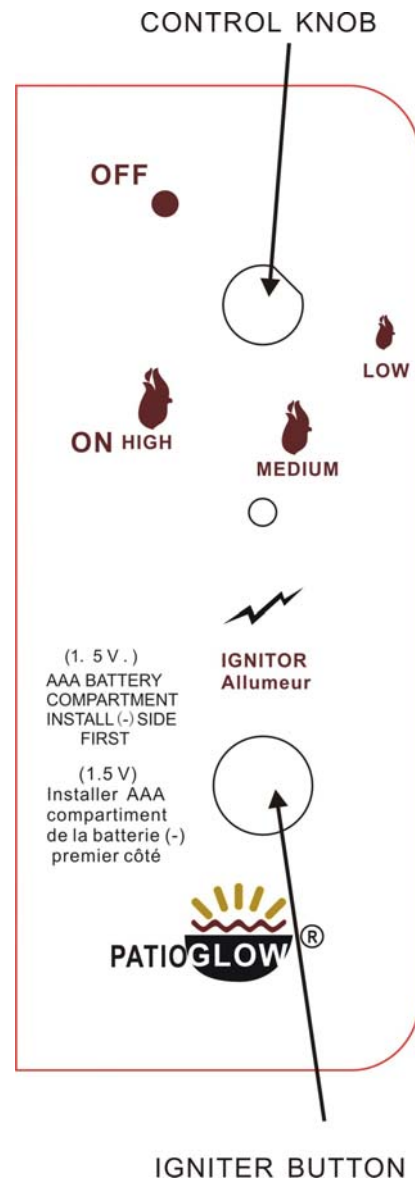

Figure 12
1. Locate the control and igniter panel. Make sure the control knob is in the “OFF” position. See Figure 12. Open the tank door and open the tank valve all the way.
2. Push in the igniter button. You will hear a slight clicking sound. With the igniter button pushed in, push and turn the control knob to the “ON” position. The fire should light within a few seconds. Once the flame is lit, release the igniter button and continue to hold the control knob in for 10 to 15 seconds. Release the control knob. The control knob should pop back out and the fire should remain lit. Note: If the fire does not light, turn the knob to the “OFF” position and wait five (5) minutes before trying again.